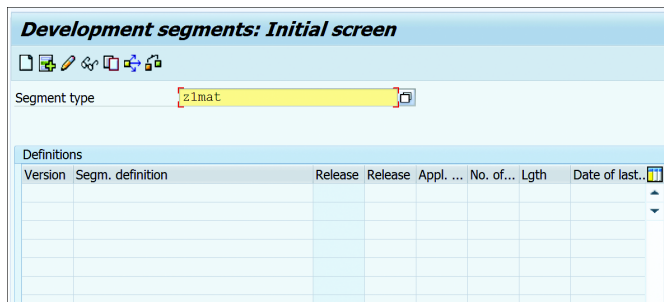

Figure 19.34 Create Development Segment Initial Screen
1. On the initial screen of Transaction WE31 (see Figure 19.34), provide the name of the segment and click the **CREATE** button in the application toolbar. SAP segment names start with `E1`, and customer segment names should start with `Z1`.